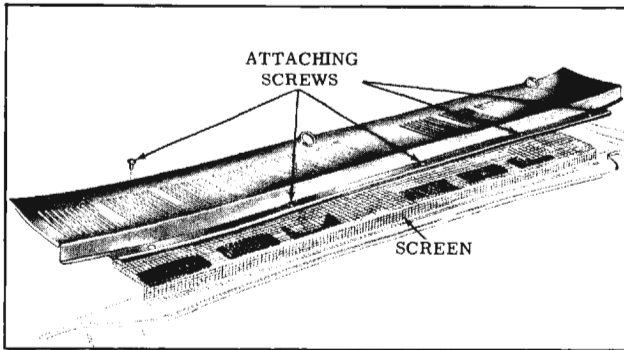

Fig. 15-102 Air Intake Grille
3. Remove grille attaching screws from forward flange of grille. (Fig. 15-102)